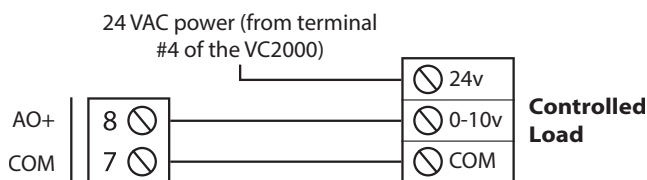

Figure 12 - Connecting the analog output (controller powered)
- 2) The VC2000 powers the load and provides a control signal (see figure 12).